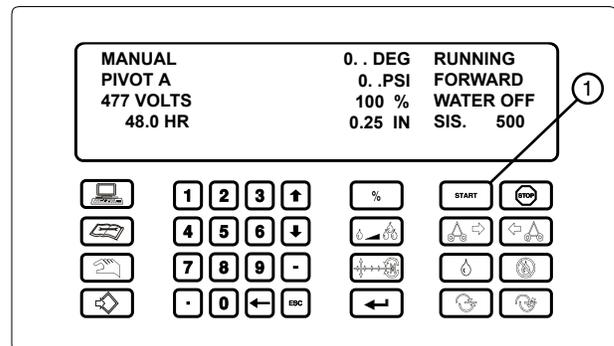

Figure 61-3 1. START key.
6. Press  to start the machine in the pivot mode. See Figure 61-3.